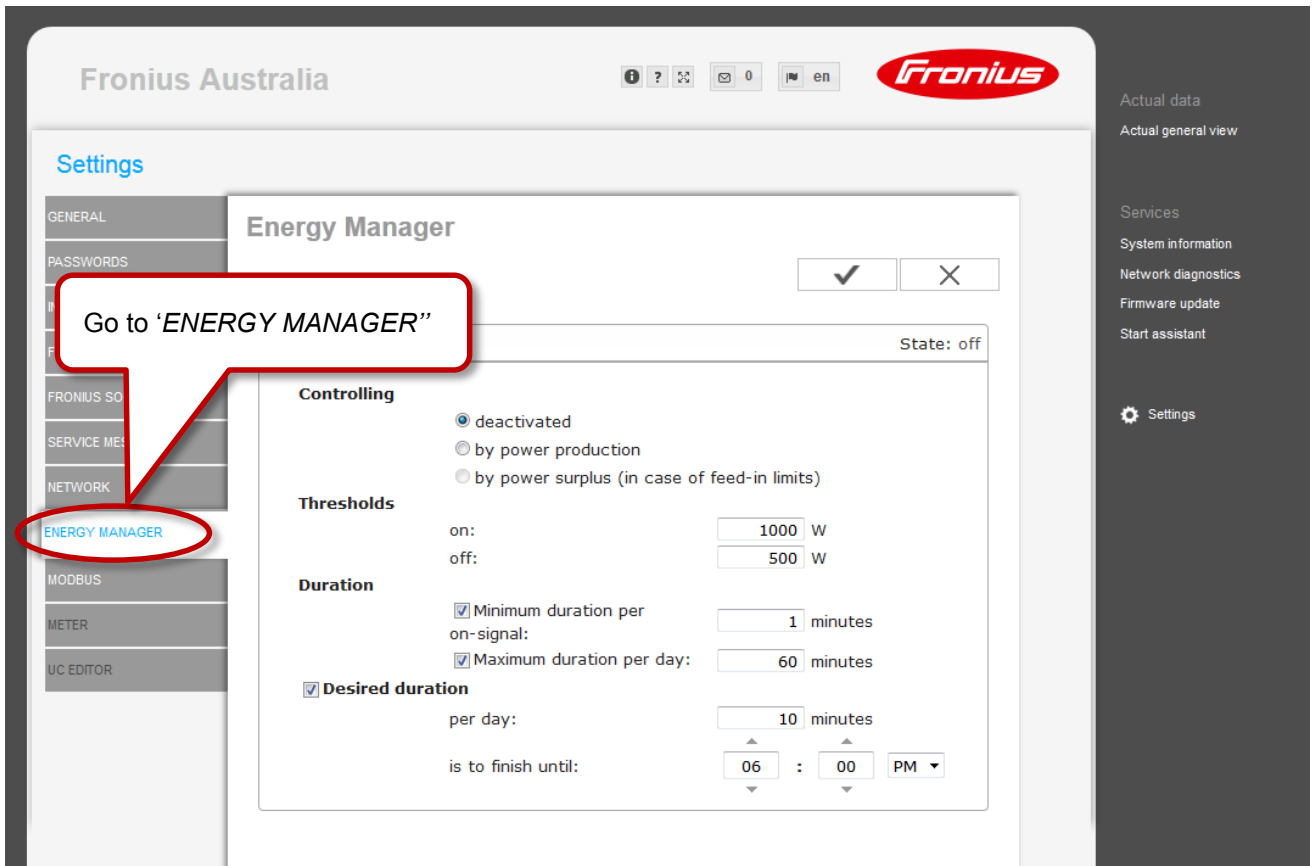

Figure 10 - Datamanager web interface
- / Select the "ENERGY MANAGER" tab (see Figure 10)